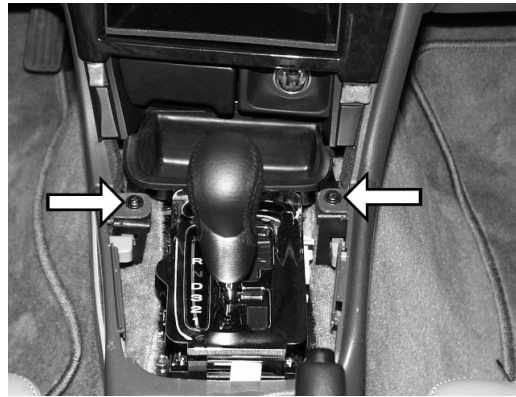

Figure 2
- Remove the tray by removing the two screws indicated by arrows in Figure 2.